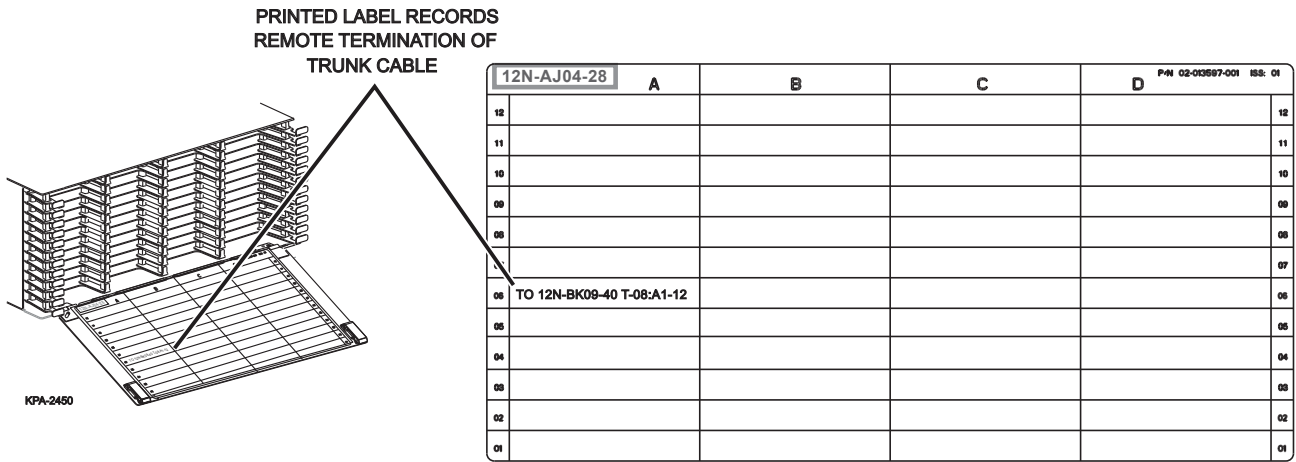
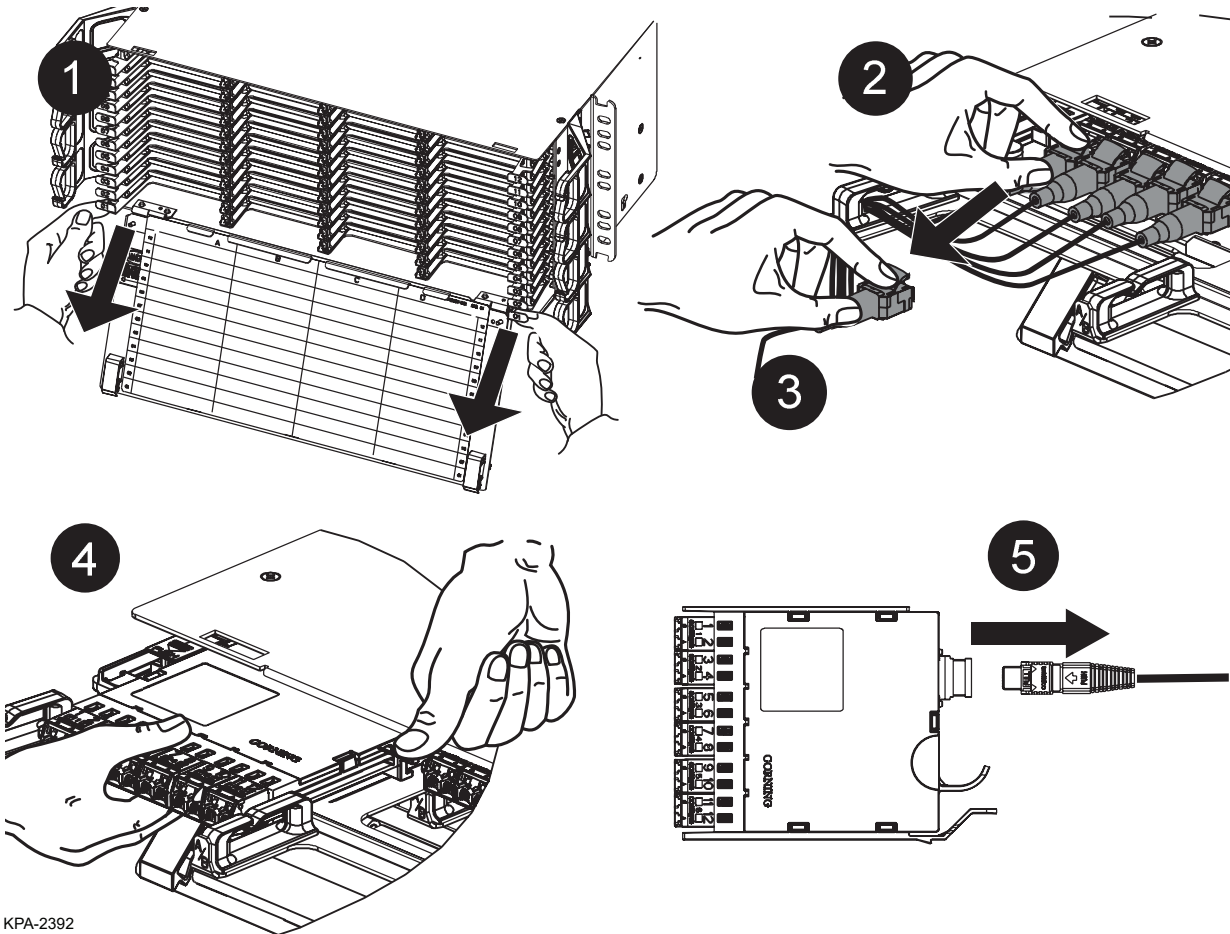

Figure 30 — Print Remote Termination Label
Figure 32 — Replace EDGE Module
Step 5: Documentation (Figure 30)
Step 2: Press latch on LC connector and pull connector out (Figure 32). If jumper is equipped with MTP® connector, simply grasp connector body and pull connector out of the adapter. (**NOTE:** only LC connectors shown in Figure 30.)